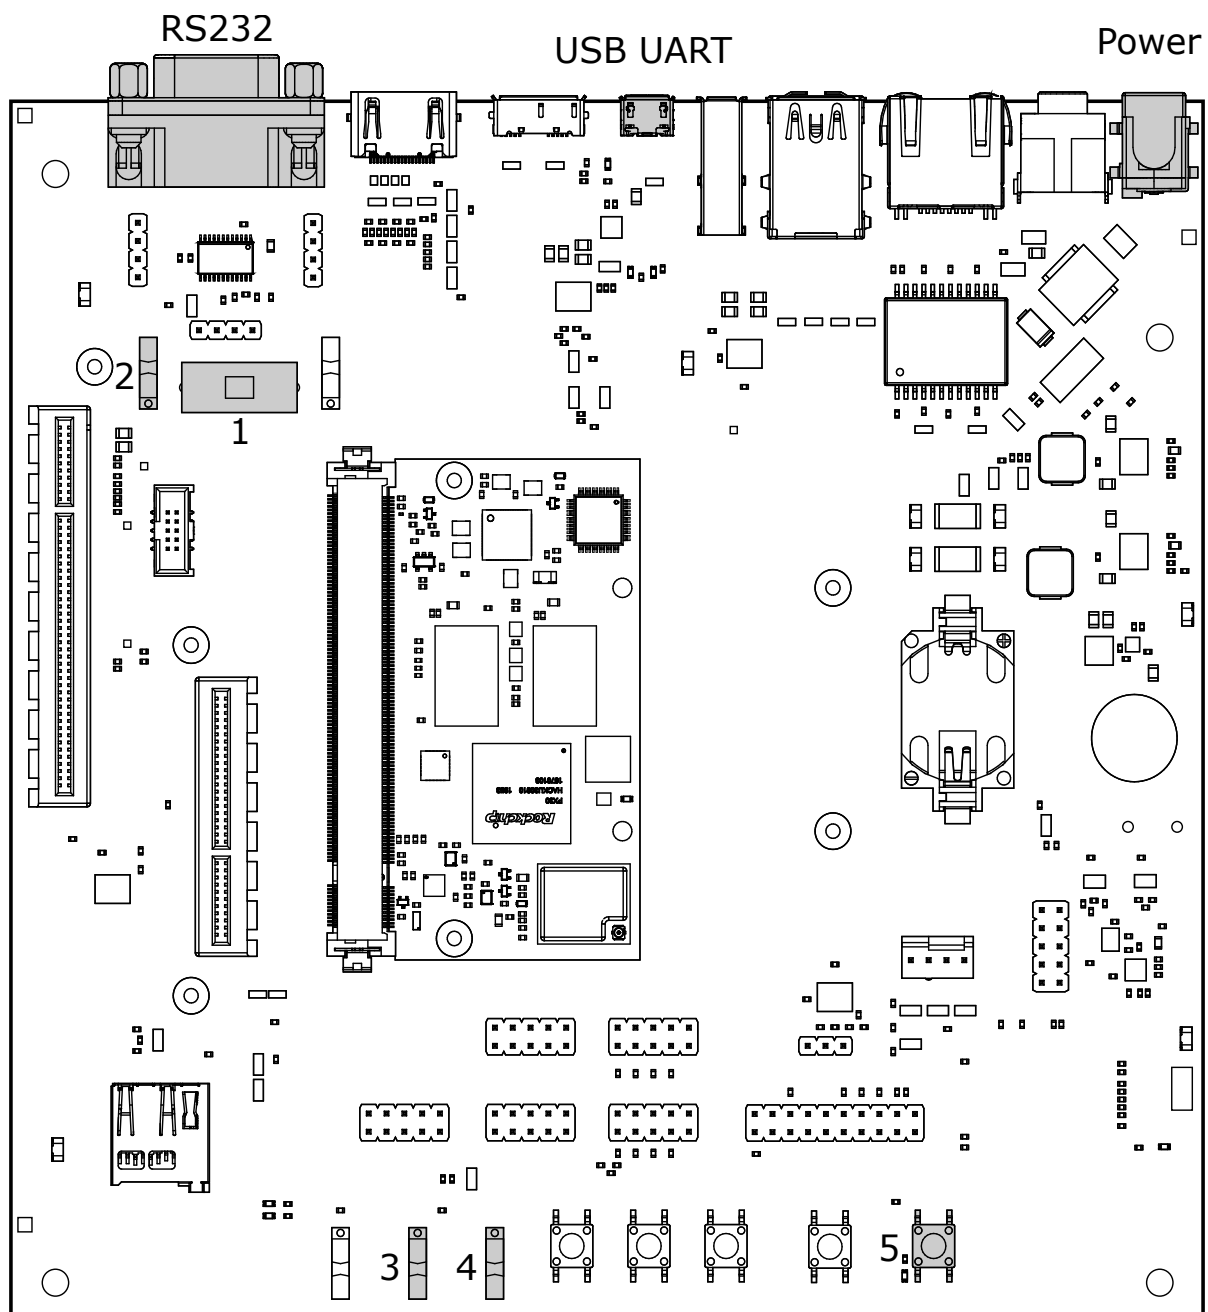

Fig. 2.2: Serial console and boot configuration
For bootloader configuration and Linux console, the serial interface can be used. Connect either a Micro-USB or RS-232 cable to the corresponding port. Select the correct UART with UART selector slider (1). For Micro-USB, the slider has to be in the right position to route the default console (UART0) to the USB-UART bridge. For RS-232, the slider has to be in the left position and the protocol slider (2) has to be in the RS-232 position (see Fig. 2.2 *Serial console and boot configuration*).